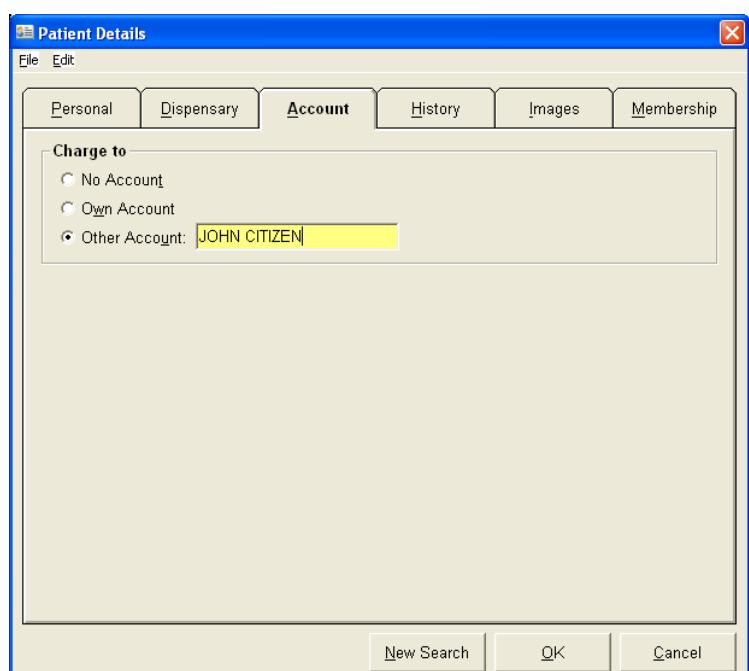

Figure 317
5. Click onto the 'Account' Tab and select the 'Other Account' option. Key in the name of the principal account holder (as shown in Figure 317) and press <Enter>. For example if you want to link Mrs Jane Citizen to Mr John Citizen, call up Jane Citizen and select Charge to 'Other Account' and type in John Citizen.